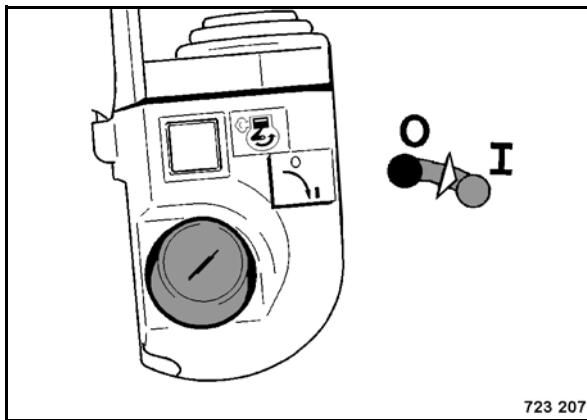

Fig. 78
- Switch on the ignition (Fig. 78) and restart the machine.